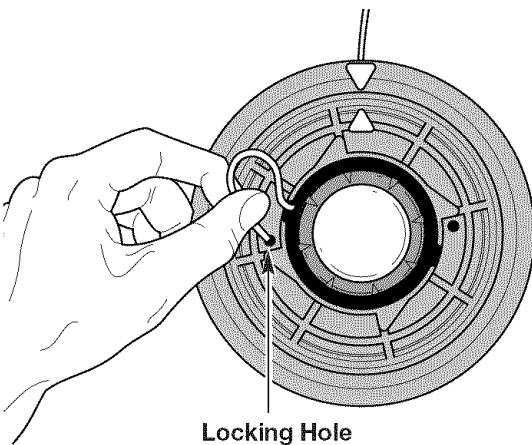

Fig. 16
3. Insert the line into the locking hole no more than 1/2 inch (12.7 mm) (Fig. 16). Do not push the line too far into the inner reel. A small loop is formed when the line is inserted correctly.